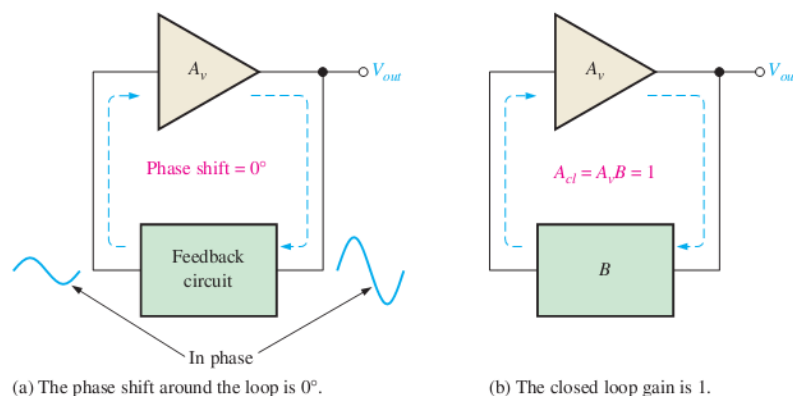

Figure 4 General conditions to sustain oscillation.
- Two conditions, illustrated in Figure 4, are required for a sustained state of oscillation: